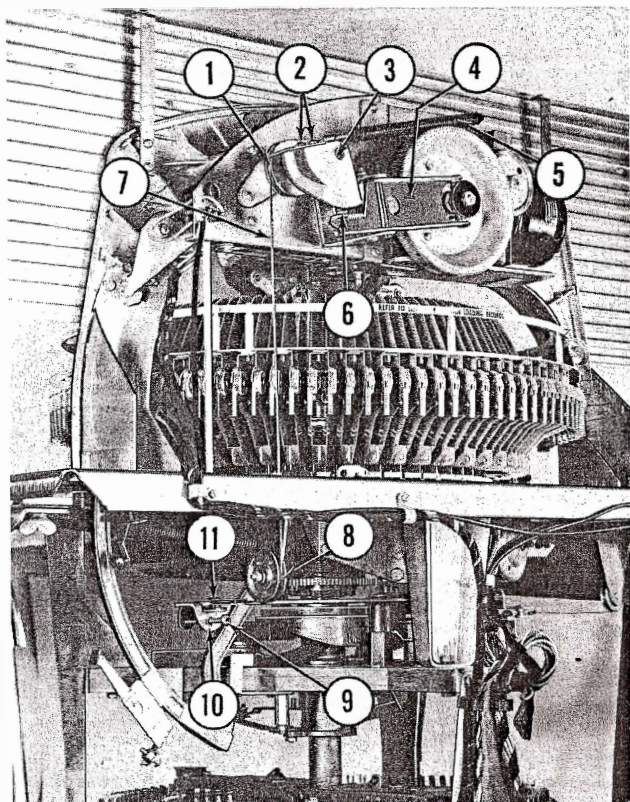

Fig. 85. ACTUATING ARM AND CABLE ADJUSTMENT, TURNTABLE AND TONE ARM
The actuating arm and cable adjustment for the turntable and tone arm (Fig. 85) should be made with the mechanism in play position. Set the adjusting screw (Item 9) so that the roller (Item 6) just rests against the stop wall of the cam with no slack in the cable (Item 7).
(2) Remove the two screws holding the stop plate on the turntable cam (Fig. 85, Item 2) to allow the cam to rotate counterclockwise, as viewed from the rear, far enough to hook the lower loop in the cable over the slide pin (Item 11). The cable should pass over the idler pulley (Item 8).